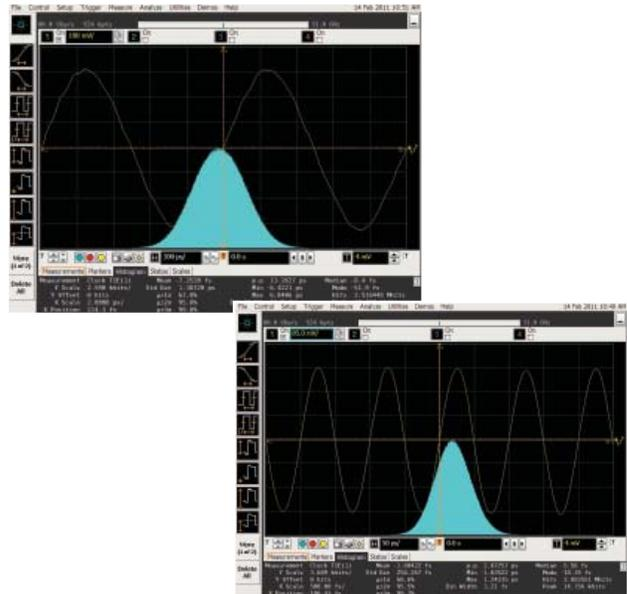

**Figure 4.** The 90000 X-Series oscilloscope displays an entire jitter-versus-frequency curve.
**Step 2.** Connect the sine wave generator to an input on the oscilloscope (Figure 4).